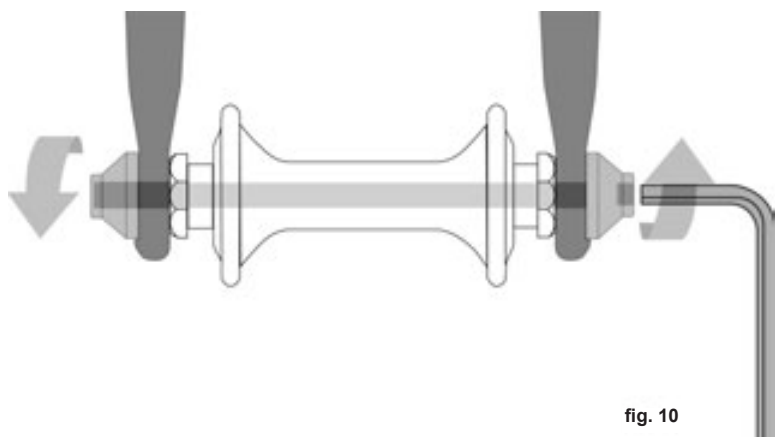

fig. 10
2. A hollow axle with a shaft ("skewer") running through it which has a nut on one end and a fitting for a hex key, lock lever or other tightening device on the other (through-bolt, fig. 10).